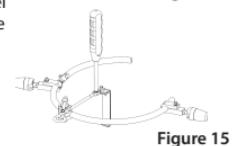

Figure 15
- To angulate the **Retractor Blades**, use the **Hex Wrench** (AL-0106) to loosen the swivel mechanism on the **Blade Holder** and manipulate the **Retractor Blade** by hand to the desired position. To secure the **Retractor Blade**, tighten the swivel mechanism with the **Hex Wrench**. (Figure 15)